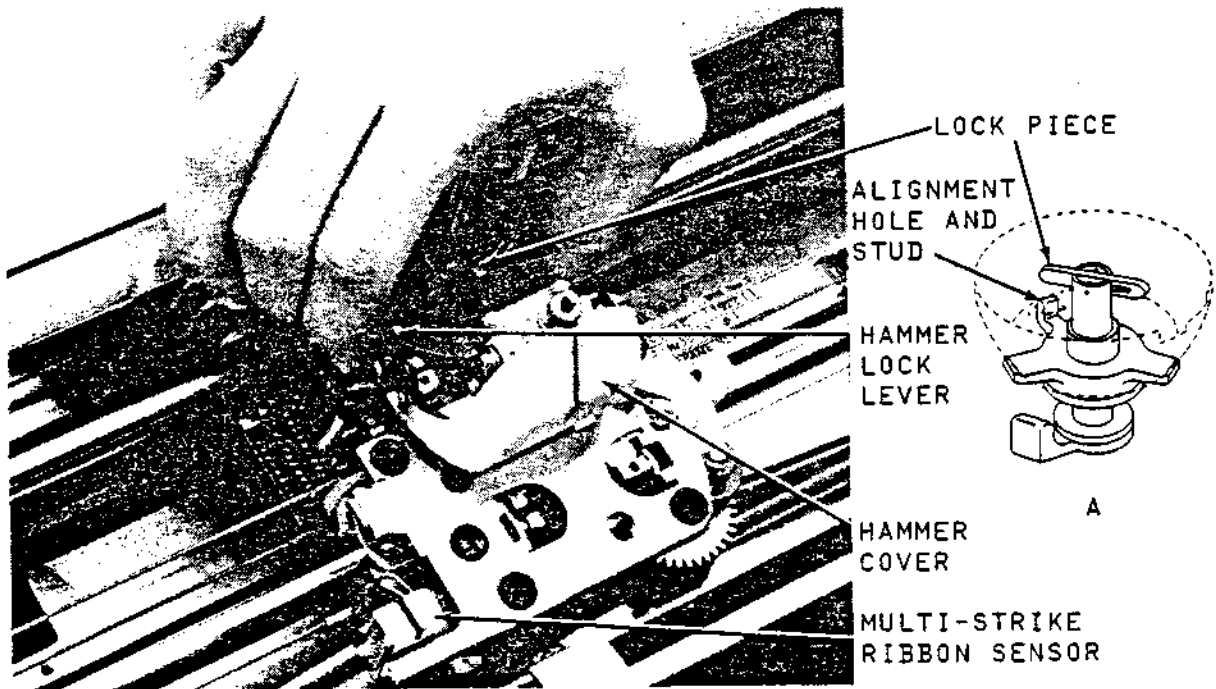

Figure 3-2 Print Thimble Removal
- e. Insert the ribbon in the ribbon sensor if a multi-strike ribbon is used (see Figure 3-2).
- c. Push hammer lock lever toward the platen (Figure 3-2); at the same time, tilt the hammer cover toward the front.